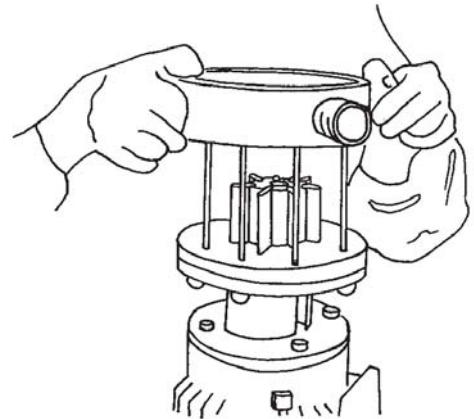

Fig.14
23) Put the rear block (pos. 9) onto the shaft and into the flange of the intermediate adaptor.
24) If an external mechanical seal (B6E) is mounted, the covering (pos. 58) has to be applied after having firmly fixed the spacer ring (pos. 59). Successively install everything on the shaft.
25) Mount the rear block (pos.9) keeping the part with the double face of PTFE (Teflon) inside the body.
26) Introduce the impeller rotor (pos. 21) after having mounted the rubber blades (pos. 22) and the double faces (pos. 20) on the rotor and position it on the coupling of the shaft. Please do not forget the O-rings (pos. 26).
27) Mount the gasket of the rear block (pos. 10).
- 28) On the rest of the pump apply the medium block (pos. 11) by positioning the machine vertically with the impeller in an upward direction, fig. 14. During the introduction of the part please take care that the rubber blades do not get trapped in the teeth of the eccentric sector (pos. 17).
- 29) Close the pump body with the front block (pos. 15) after having applied the O-ring (pos. 10) and tighten the covered nuts by means of a pipe wrench of 18 or 22 mm.